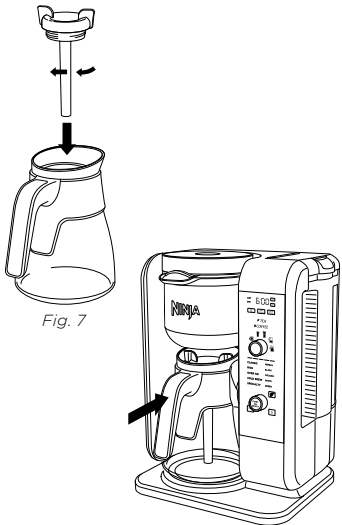

Fig. 8
- 3 Twist the brew-through lid clockwise onto the carafe to lock into place (Fig. 7) and center the carafe below the brew basket (Fig. 8).